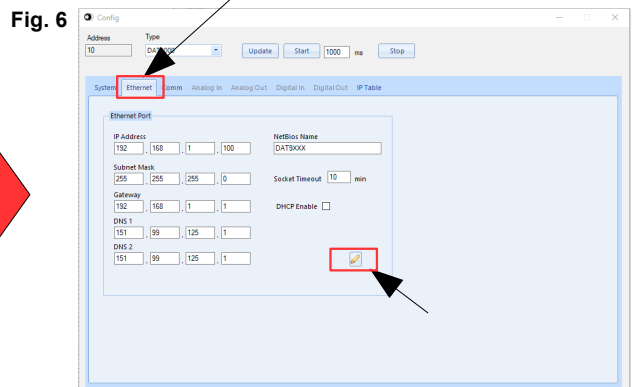

Fig. 6
3. Click on the tag "Ethernet" and change the network parameters (Fig. 6)
4. Click on  to edit the parameters (Fig. 6)